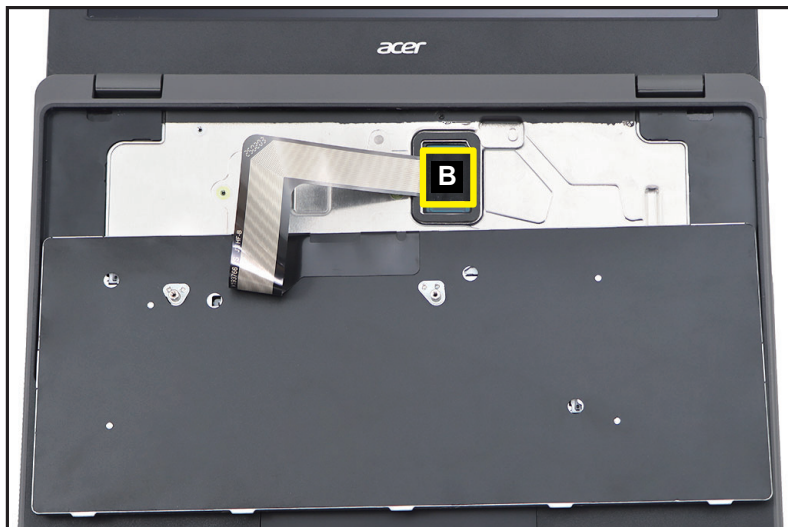

Figure 1-20. Keyboard Removal
4. Detach the tape (B) securing the keyboard FPC connection (Figure 1-20).